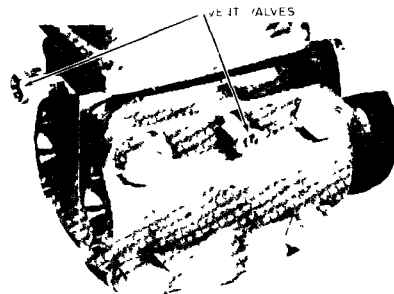

FIGURE 11 - Location of Vent Valves
8. Liquid applications only crack vent valves V1 and V2 (1/4 turn to unseat) and allow trapped air to escape. Close vent valves. (See Figure 11 for location of vent valves.)